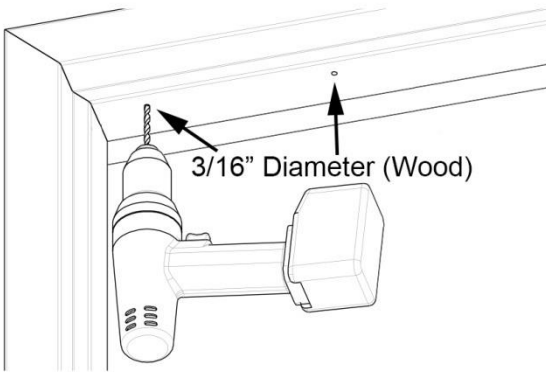

Figure 14. Drilling the Mounting Holes
10. DRILL two (2) 3/16" diameter mounting holes by 1-1/4" deep at bracket-mounting hole marks (see Figure 14, "Drilling the Mounting Holes").